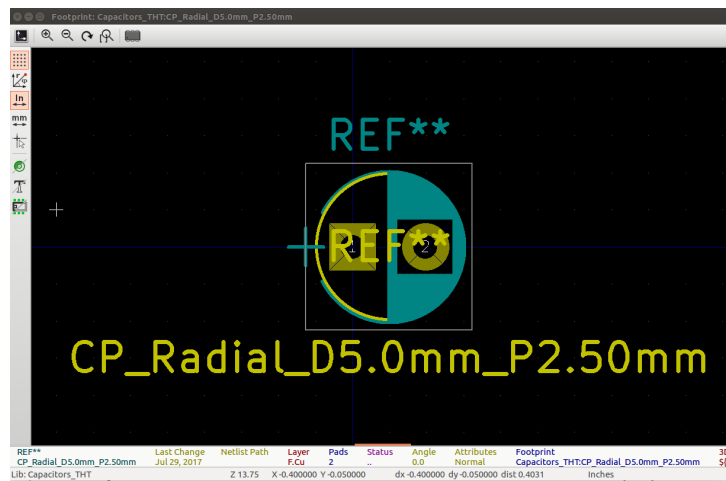
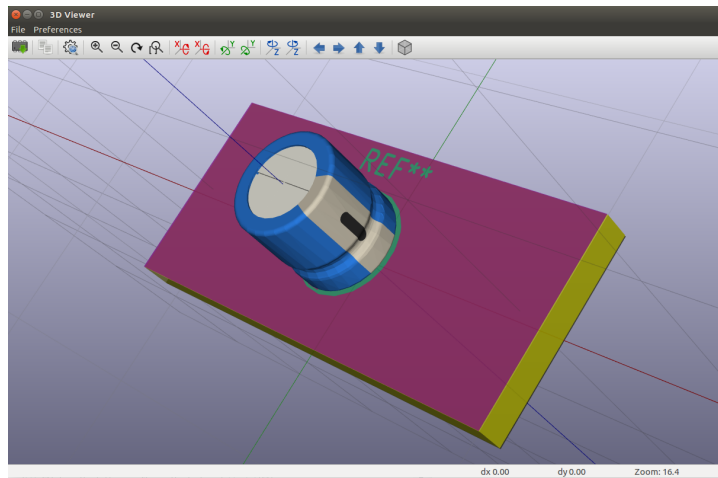

Figure 13.6: Footprint CP\_Radial\_D5.0mm\_P2.50mm's view in 2D.
Figure 13.7: 3D view of the footprint
- To view a footprint in 2D, select the component for which you wish to view the available footprints, then select the library from left-most pane and now from the right pane and click on the desired footprint and click on **View selected footprint** from the menu bar. Let us view a footprint for C1 from the *Capacitors.THT* footprint library. Choose C1 from the middle pane as shown, click on *Capacitors.THT* in the left-most pane and select the *View selected footprint* tool. On clicking the **View selected footprint** tool, the Footprint window with the view in 2D will be displayed. 2D view of the footprint *CP\_Radial\_D5.0mm\_P2.50mm* is shown in Fig. 13.6.
- Click on the 3D Display icon in the Footprint window, as shown in Fig. 13.6. A top view of the selected footprint in 3D is obtained. Click on the footprint and rotate it using the computer mouse to get 3D views from various angles. One such view of the footprint in 3D is shown in Fig. 13.7.